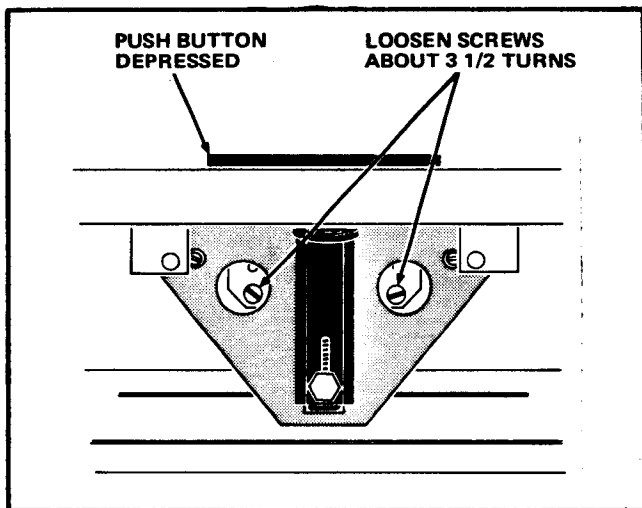

FIGURE 10
2. Depress and hold the Push Button depressed to expose the two Screws on the Extension Assembly. Loosen the Screws about 3 1/2 turns. Do not remove the Screws. The Screws retain the position of the Cable as it passes over the Cable Guides on the Extension Assembly. See Figure 10.